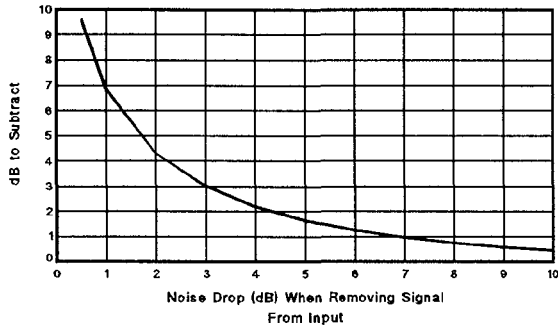

Fig 6 - Noise-near-Noise Correction
3. Analyzer noise figure: (use Fig 6)
(use Fig. 6